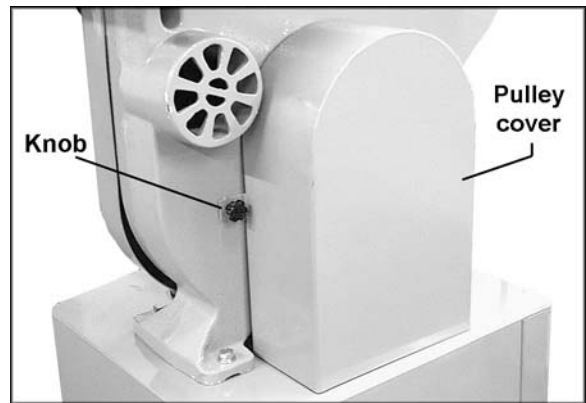

Figure 17
10. Screw the two small knobs (Figure 17) into the threaded holes in the saw body. Slide the pulley cover down over the knobs, and tighten the knobs.